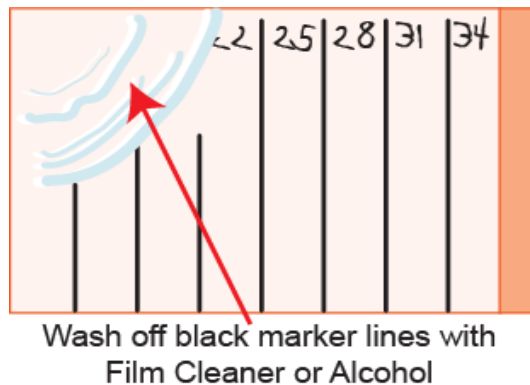

Figure 12
- B. Be sure to clean off the black marker lines before processing with film cleaner or alcohol. Otherwise, they will transfer off onto the white drum skin of the Cyrel®FAST processor (Figure 12).